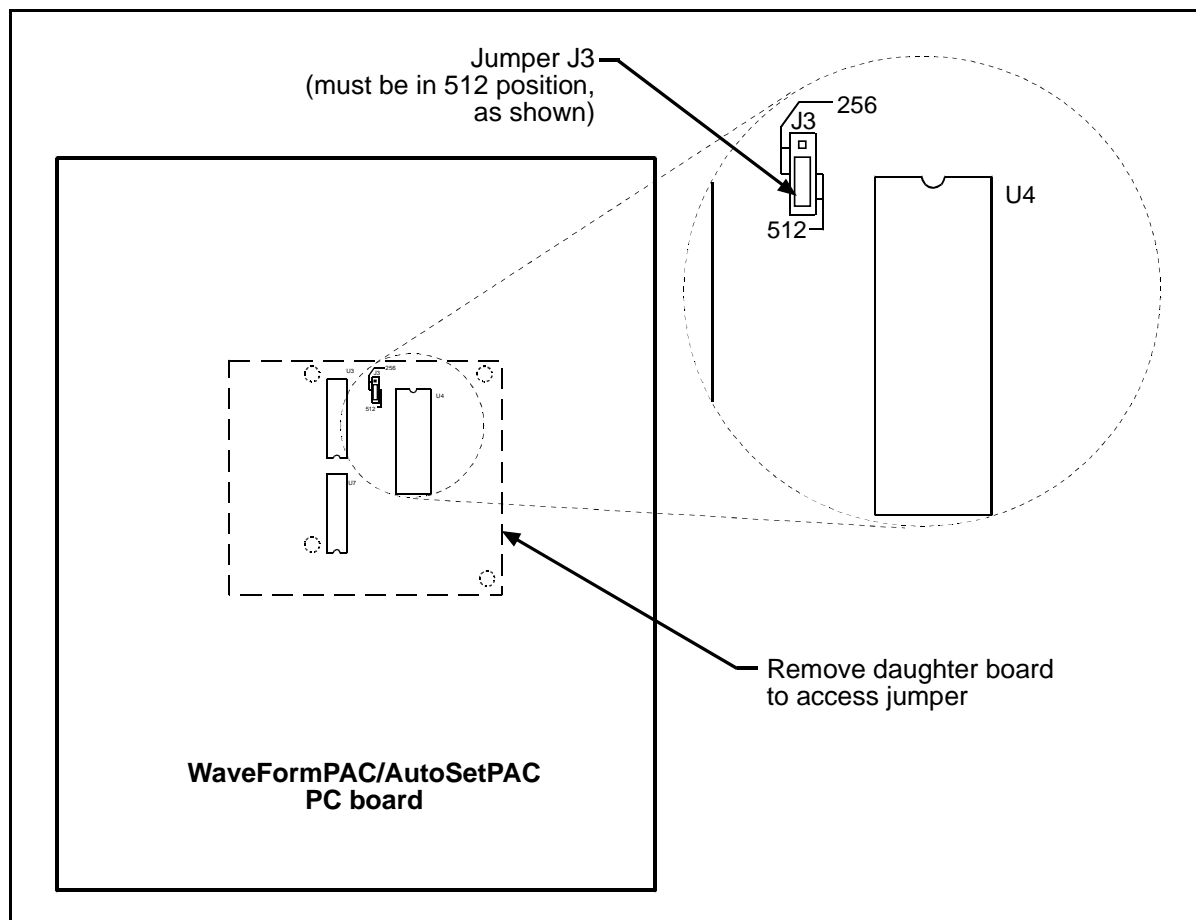

Figure 1. Location of AutoSetPAC Jumper, Older Version Board
If you have an AutoSetPAC board installed with your SmartPAC, look at the board to see if it has a daughter board installed on top of the AutoSetPAC board in the location indicated in Figure 1 on page 10.
If you have an older version AutoSetPAC installed with your SmartPAC and you upgrade the AutoSetPAC firmware, jumper J3 must be set to “512” for the unit to operate properly. Follow the instructions below to install the chip on your older version AutoSetPAC board, and to check and set the jumper. Refer to Figure 1 (page 10) and your user manual.
10. When you have replaced the chip, check and set the jumper, if applicable. Look on the AutoSetPAC board to see if there is a jumper, J3, next to the firmware chip (see Figure 1).